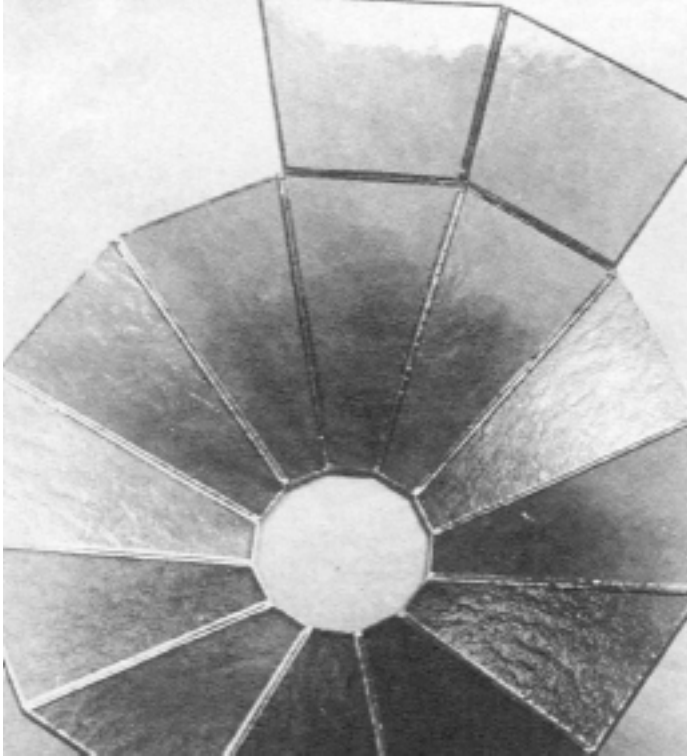

Fig 14.6
8. Tack two C panels together at approximately the correct angle. Place these on the assembled B panels and line them up exactly. Do not tack these on at the corners this time as that could unsolder the previous joint. Instead tack them about 15mm in from the corners (fig 14.6). Use only a tiny amount of solder because if subsequent panels do not fit properly, you will have to unsolder some joints to adjust.